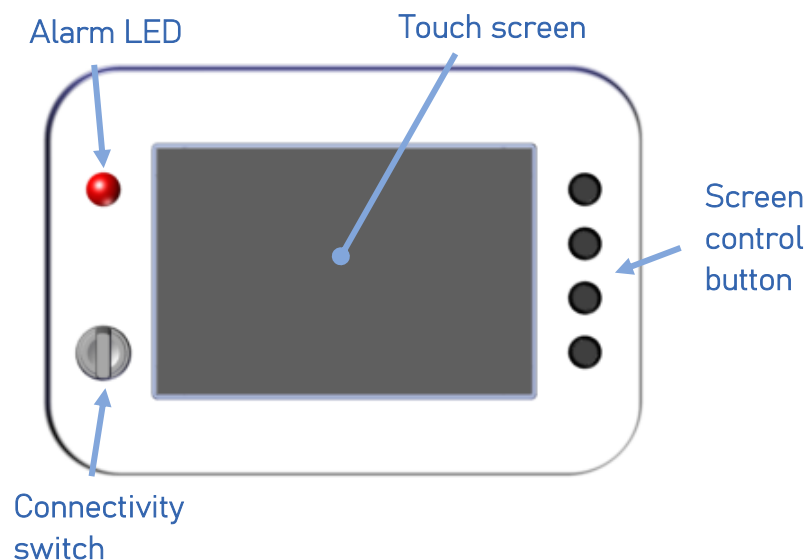
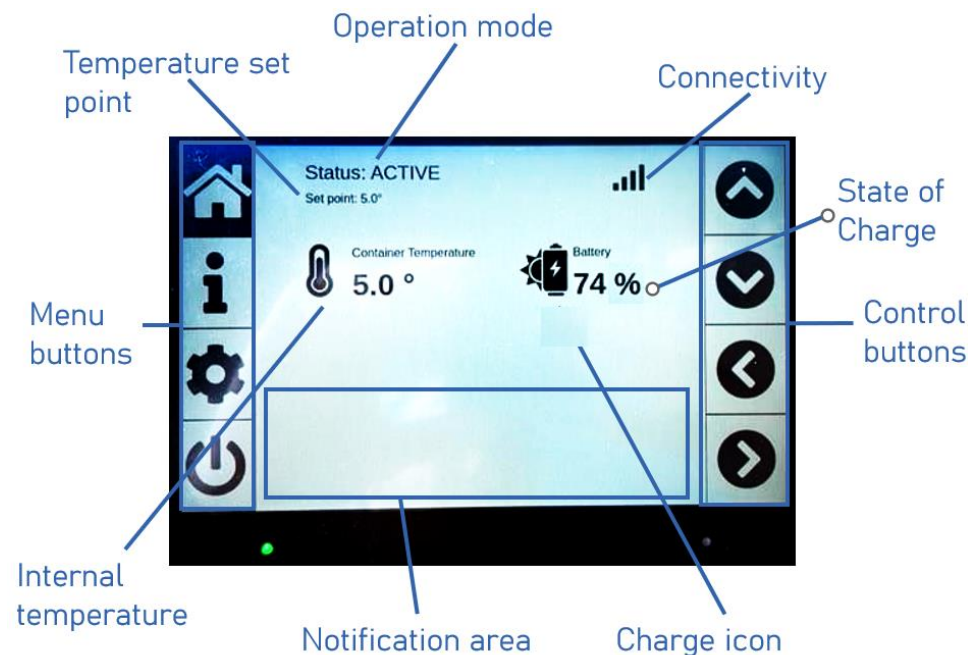

Figure 8 - Control unit - Human/Machine Interface (HMI)
Figure 9 - HMI main page.
The HMI (**Figure 8**) is a touch screen that allow the user to:
1. Press any control button (**Figure 8**);
2. Wait five (5) seconds for the screen to turn on.
3. The Main page will light up, ref fig 9.
The connectivity switch (Figure 8) has 3 positions:
- Set the connectivity switch (Figure 8) to OFF position.
- Set the connectivity switch (Figure 8) to ON position.